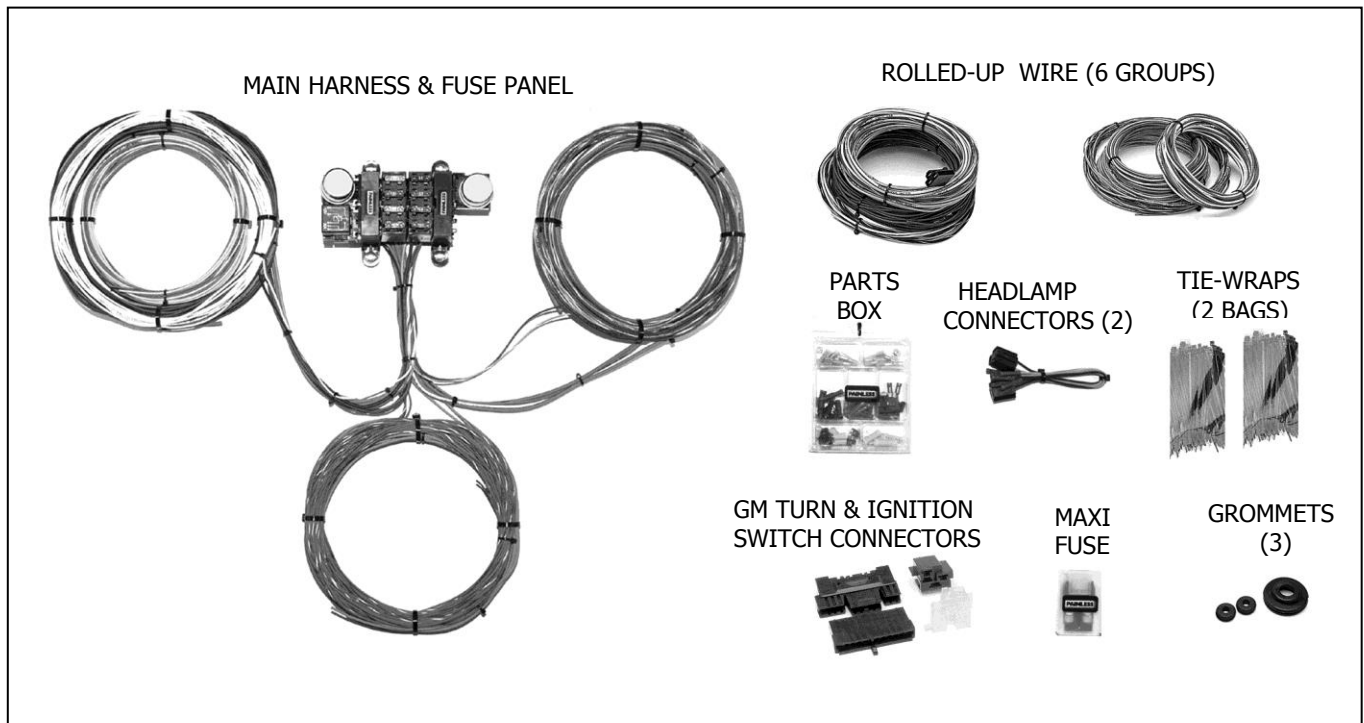

Figure 3-1 Painless Wire Harness Kit P/N 10308
Refer to **Figure 3-1** to take inventory. Please check to see you have everything you're supposed to in this kit. If anything is missing, contact the dealer where you purchased the kit or Painless Performance at (800) 423-9696. This Painless Wire Harness Kit contains the following items: